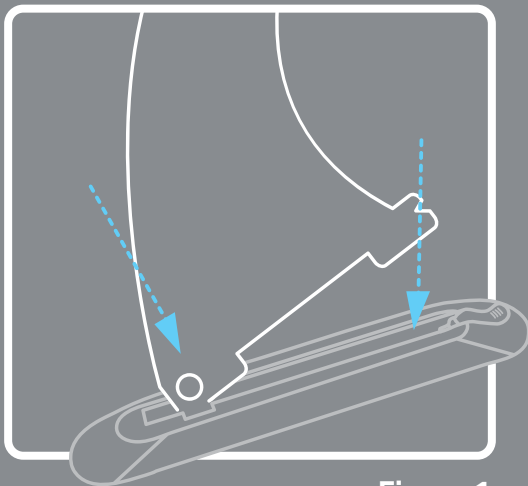

Figure 1.
- To make the pump more compact, remove the pump handles by rotating counterclockwise. **Figure 1** until fully detached and slide onto the two handle mounts. **Figure 2**
- Insert the fin into the fin box slot via the end gap. **Figure 1**